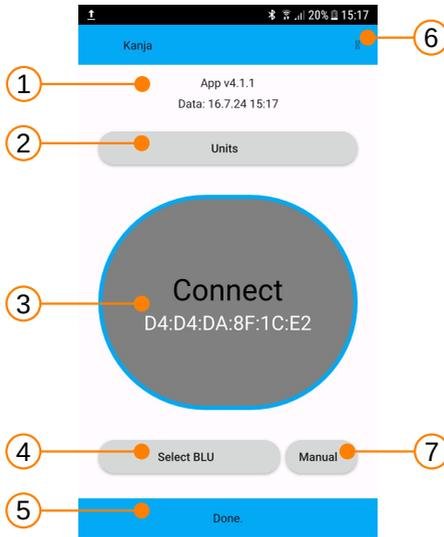
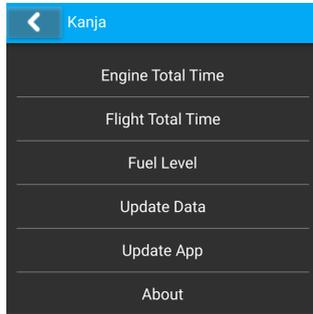

Figure 4: Typical page shown on Kanja start
Figure 11: A page with special commands.
When **Kanja** starts, a page similar to Figure 4 appears. Figure 4 shows individual elements on the page.
5. Start **Kanja** app. The page similar to one shown on Figure 4 shall appear.
On every start, Kanja connects to our server and automatically downloads the latest firmware along with some other configuration files. The date and time of the last *data* is shown on the start page, see Figure 4, mark (1) below. The downloaded files are then kept on your Android device.
When a global menu symbol is selected (denoted as ⑥ on Figure 4), a page with special commands appears. Figure 11 shows an example.